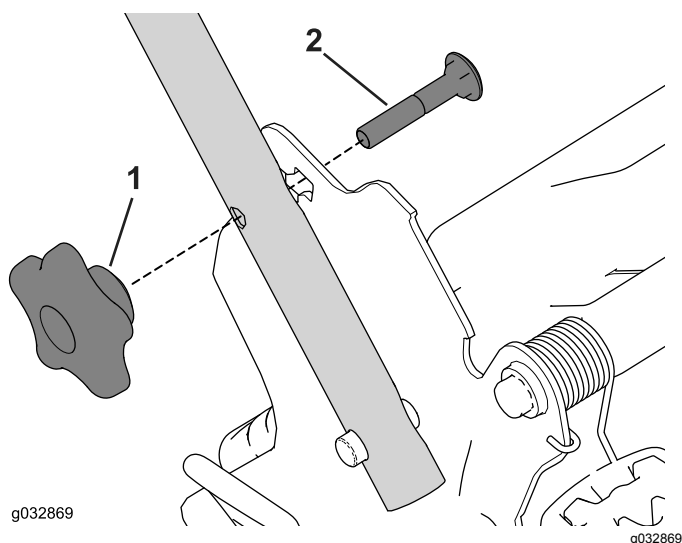

Figure 24
1. Remove and save the 2 handle knobs and 2 carriage bolts from the handle brackets (Figure 24).